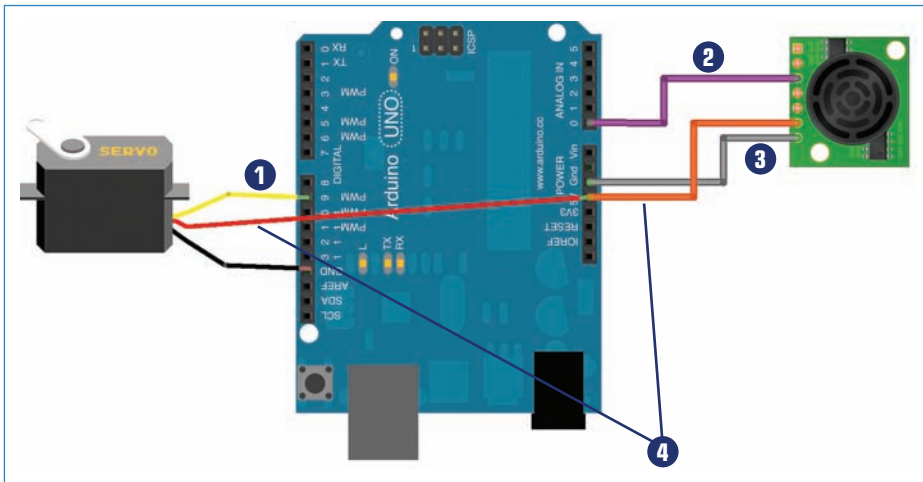
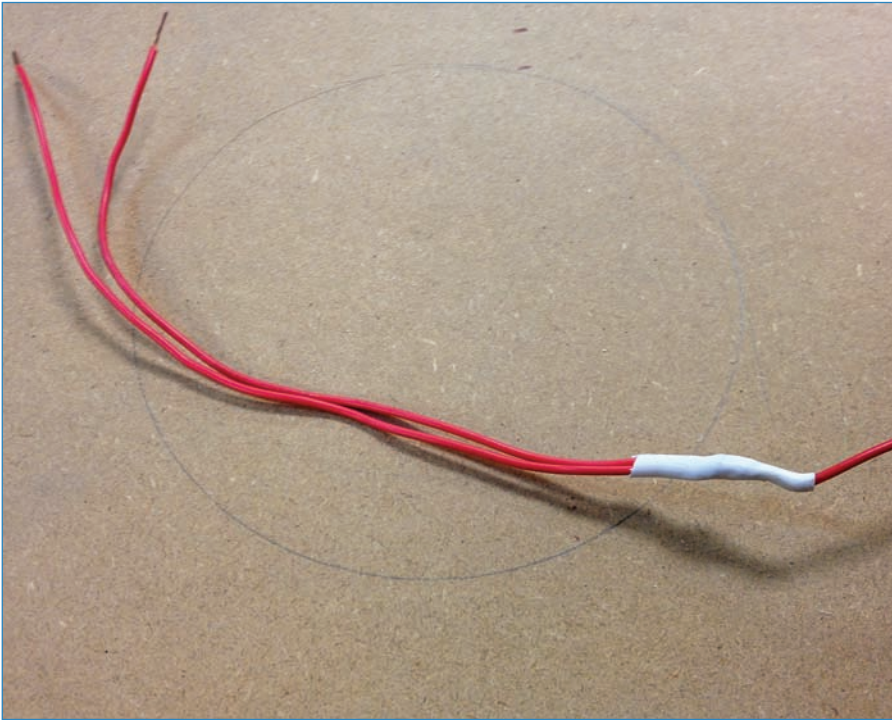

FIGURE 9.6 Wiring up the cat toy is easy!
FIGURE 9.7 Splicing the wires.
The electronics are a cinch! Just wire up your Arduino, as you see in Figure 9.6.
2. Connect the data wire of the ultrasonic sensor (the purple wire in Figure 9.6) to the Analog 0 pin, and connect the ground wire (shown as gray in Figure 9.6) to a GND pin. You connect the orange wire in the next step!
3. The only tricky part of wiring up the Arduino is that both the motor and the sensor need 5V, and there is only one 5V pin on the Arduino. What do you do? You can create a spliced wire (see Figure 9.7) by soldering three wires together, and then sealing it all up with heat-shrink tubing (shown as a red wire coming from the servo and an orange wire coming from the sensor in Figure 9.6). The single end goes into the Arduino's 5V port, while the other two connect to the ultrasonic's and servo's power pins.